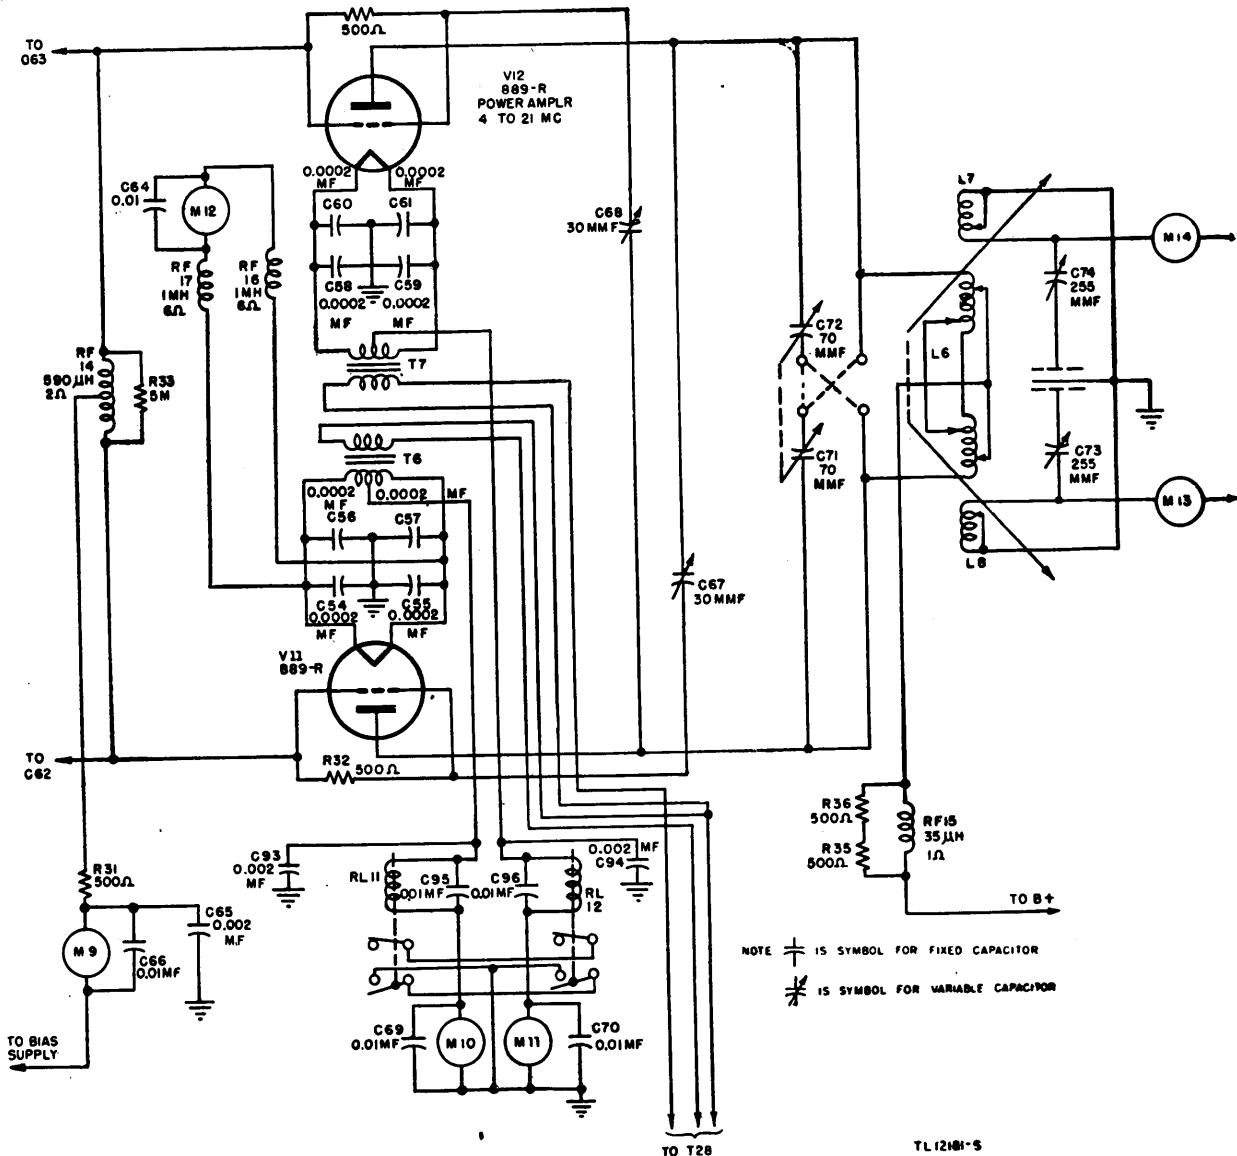

Figure 51. Power amplifier, functional diagram.
#### 95. Power Amplifier (figs. 51 and 84)
b. The plate tank circuit consists of capacitors C71 and C72 (fig. 12) together with reverse wound tank coil L6, and is tuned by adjusting the capacitors and attaching the proper coil shorting bars across the coil. Tank capacitors C71 and C72 may be connected in parallel or, for high-frequency (h-f) operation, in series. When the tank capacitors are series connected, a ground connection is provided to the connecting link. Figure 51 shows methods of connecting tank capacitors. For parallel connection two straps are used, one with hump in the middle for crossing over the second strap. The parallel connecting straps are connected so that each one goes from the terminal on the movable plate of one tank capacitor to the terminal on the fixed plate tube mounting of the other tank capacitor. The plate tank coil of the p-a stage is split into two halves as is the first amplifier tank coil, one half being wound in a clockwise direction and the other half being wound in a counterclockwise direction so that the center of the coil is always at r-f ground potential. This type of coil provides improved r-f circuit balance, and the stray capacitance to ground as well as the r-f voltage at each end of the tank coil are more nearly
### 97. Antenna Network (fig. 51)